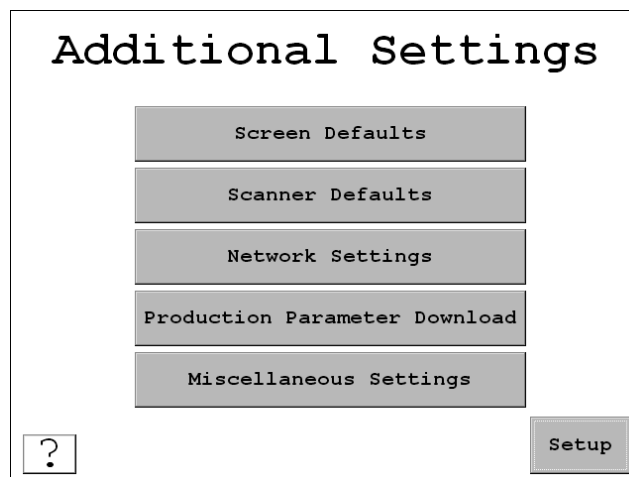

Figure 3-31. Additional Settings Screen
2. Press **Additional Settings**. The Additional Settings screen appears, Figure 3-31
3. Press *Additional Settings*. The Additional Settings screen appears, Figure 3-31.